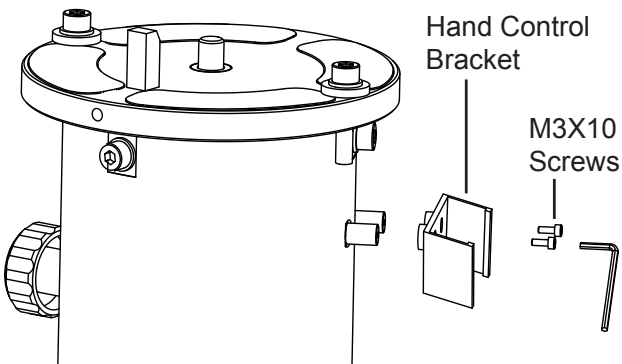

Fig. 1.1a
2. Install the hand control bracket on the tripod. (Fig 1.1a)